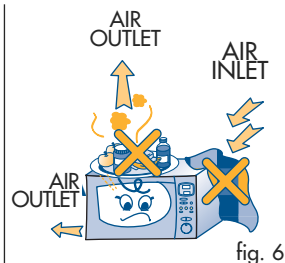

fig. 6
- 6) Do not block the air intake vents. In particular, do not place any objects on top of the oven and check that the air and steam outlets (placed on the top, on the bottom and or on the back of the appliance) are ALWAYS FREE OF OBSTRUCTIONS (fig. 6).
- 7) Place the support (L) in the centre of the circular groove and attach the turntable (I) to it. The spindle (D) should be inserted in the corresponding groove in the centre of the turntable.